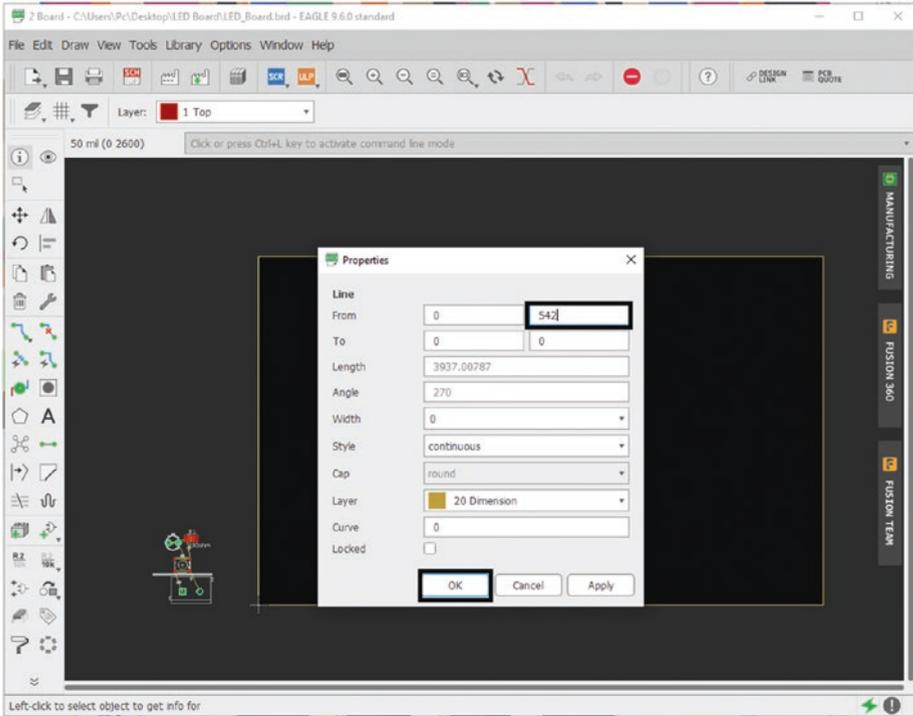

Figure 5-56. Update vertical line value
5. In the second text box next to “From,” type in 542 (if this value makes your board huge, please make sure you change your “Grid” to “mil”) and click “OK.” See Figure 5-56.